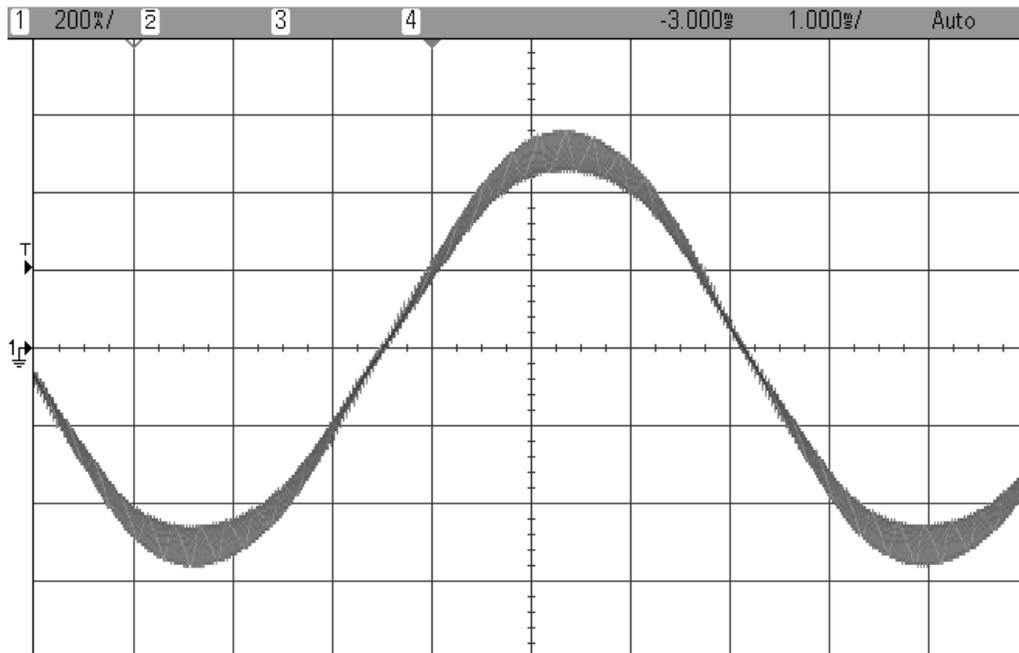
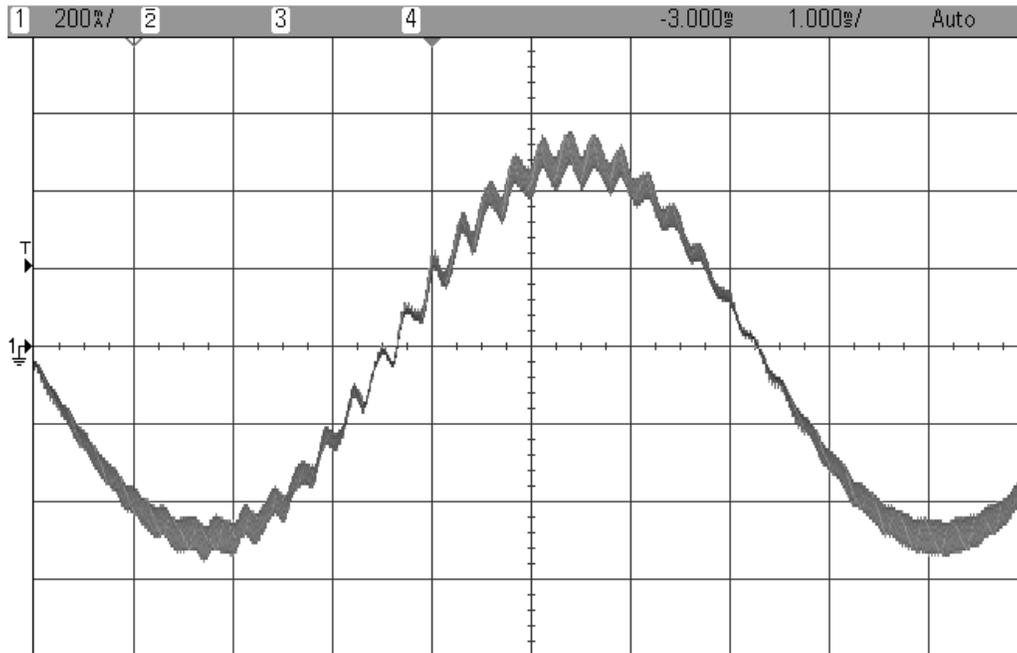

Figure 48: K_p^{series} setting that has been calculated at $1/20^{\text{th}}$ of the bandwidth.
Figure 49: K_p^{series} setting that is too high, resulting in the controller becoming unstable.
As the bandwidth increases, the sampling delay more negatively affects the phase margin of the controller, causing the control loop to become unstable. **Figure 48** is a plot of the motor current waveform with a stable K_p^{series} setting. As K_p^{series} increases, the phase margin of the control loop becomes smaller. After a while, the control loop becomes unstable and starts to oscillate as shown in **Figure 49**. The current controller gain should not be set to this high of a value. When current loop instability occurs, lower the K_p^{series} gain until the current waveform is like the one in the following figure.
- When the motor makes the high pitch noise, the current waveform looks like that in **Figure 49**.